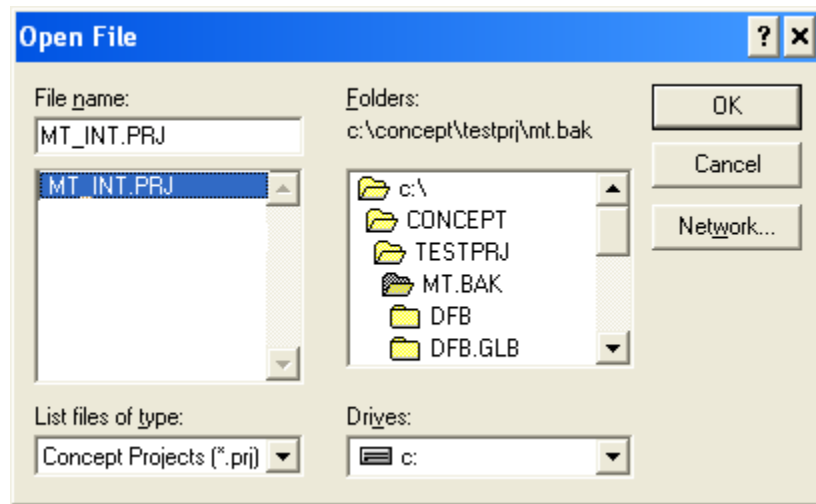

Figure 5-6: Project Selection Dialog
1. Open a project by accessing the file menu and selecting OPEN, then selecting the project. In this example, the project is named MT\_INT.PRJ (Figure 5-6).